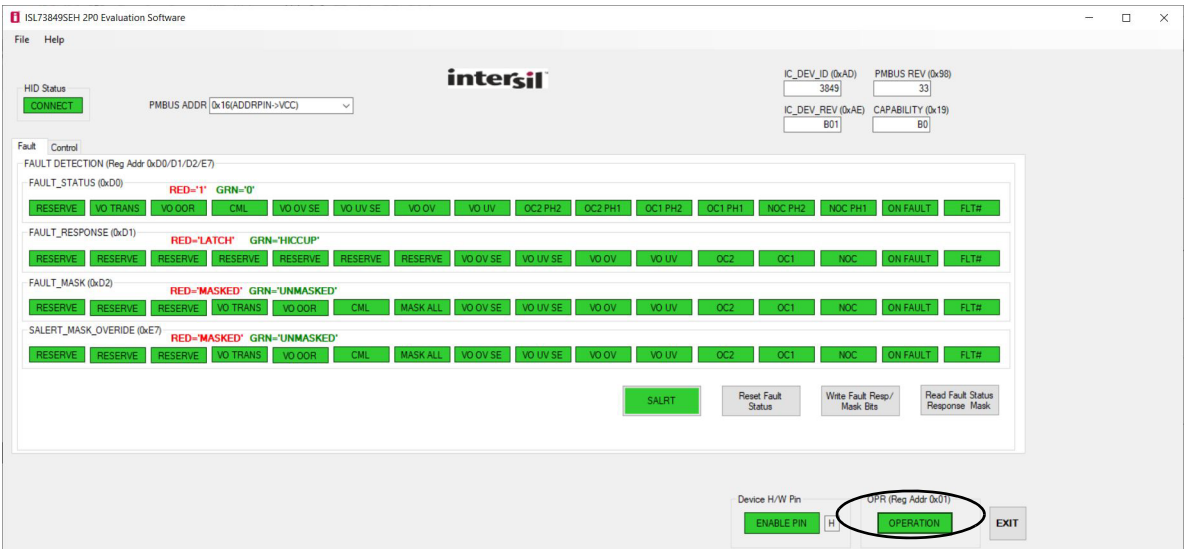

Figure 6. Click the OPERATION button
12. Enable power-up with the **OPERATION** button as shown in Figure 6.